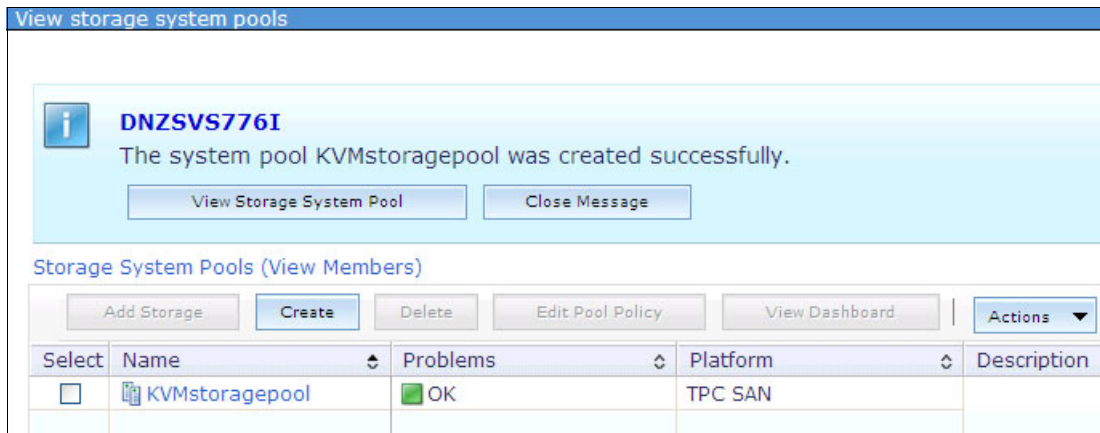

Figure 9-64 Display job properties window
7. A blue information window opens (Figure 9-64). Click **Display Properties**.